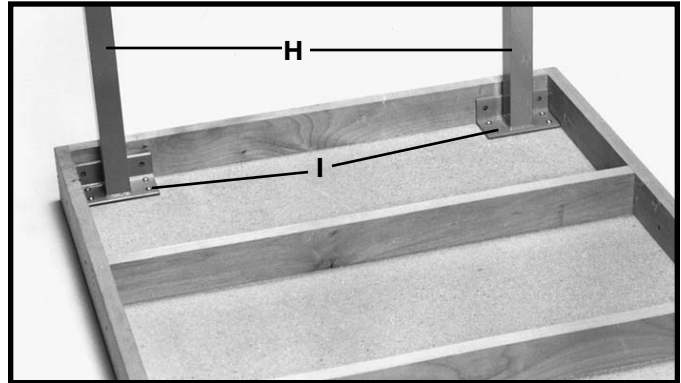

Fig. 97
1. Position the two legs (H) Fig. 97, at the two far corners of the inside of one end of the extension table, as shown, and mark the position of the eight holes to be drilled into the bottom of the table.